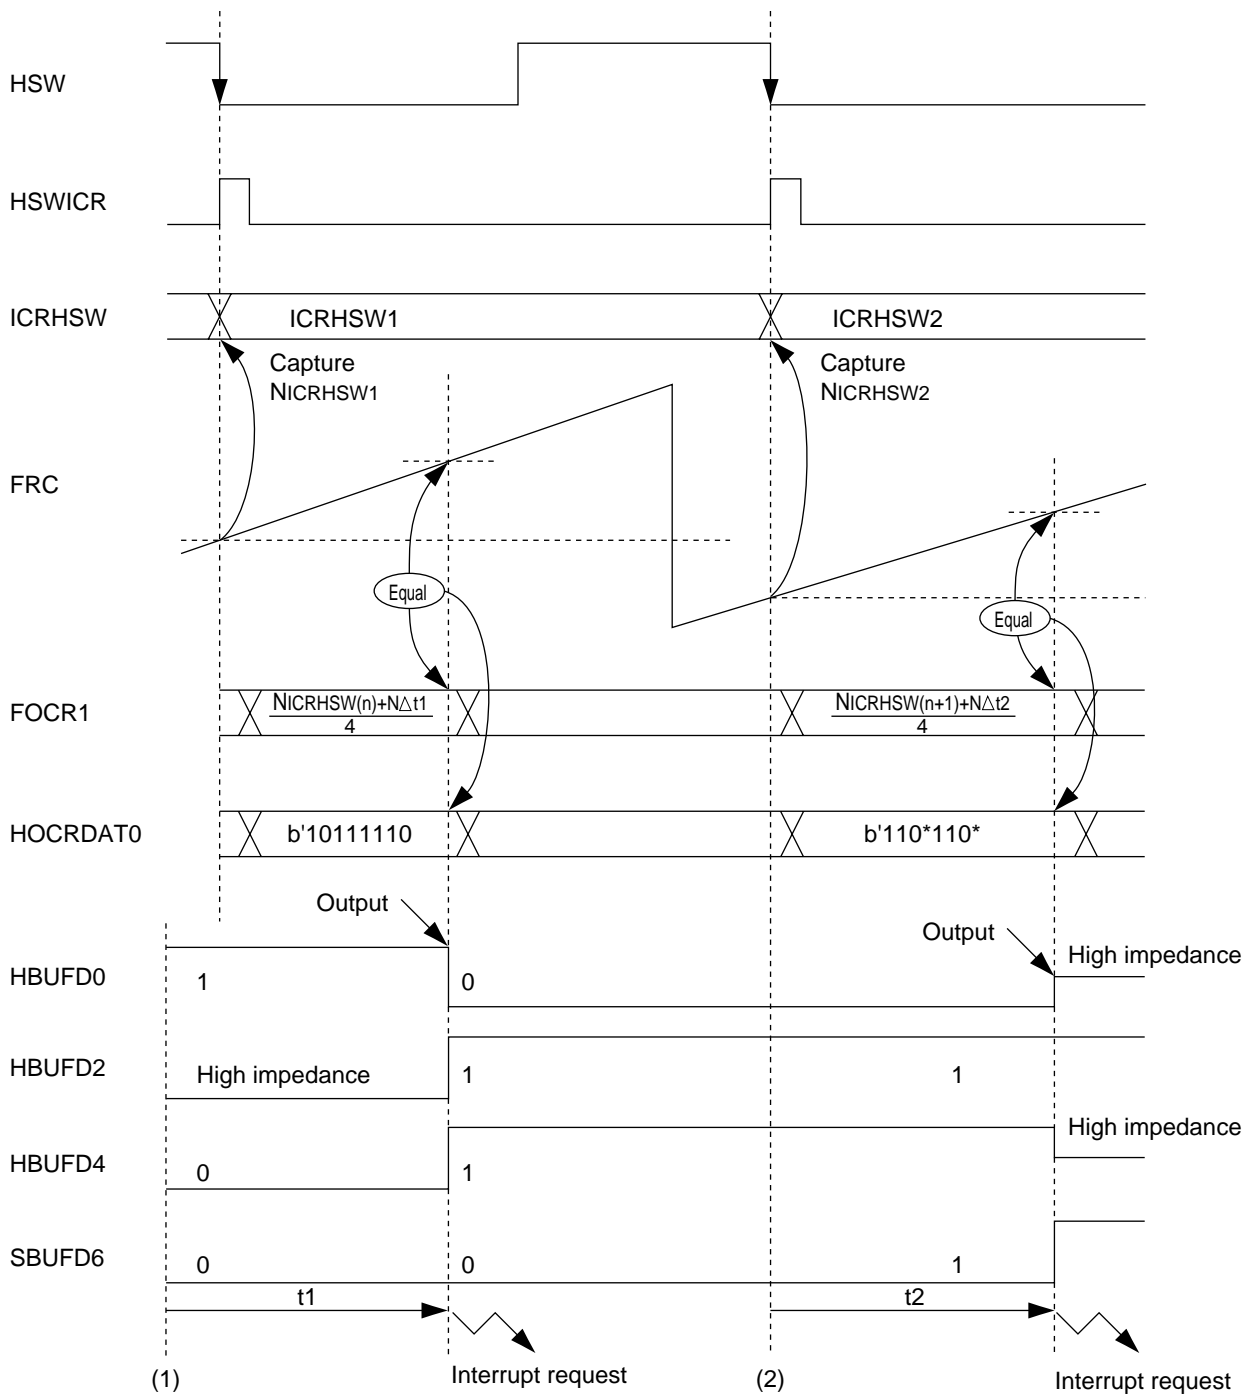

Figure 8-4-1 Synchronous Output Function 1 (HOCR Function), Example 1
(1) At time (1) in Figure 8-4-1, set the following: initial values for each output data, synchronous output timing, and output data.